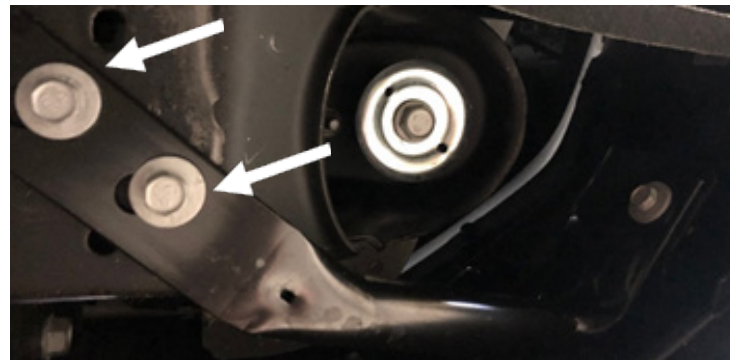
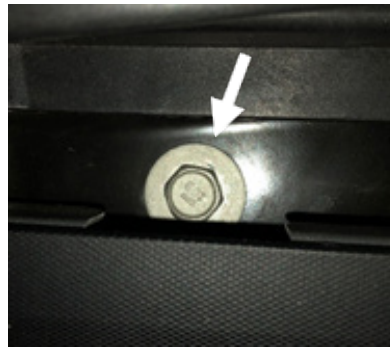

Figure 9
Figure 10
9. From under the truck: use a 15mm socket wrench to remove the two (2) back bolts on the bumper support bracket on both sides. Figure 9.
10. With the grill gone you can access the bumper mounting bolts on the top deck. Use a 15mm socket wrench to remove the two (2) bolts one of the top (Figure 9) and one on the bottom (Figure 10). The bumper can now be removed from the truck. Figure 10-11.